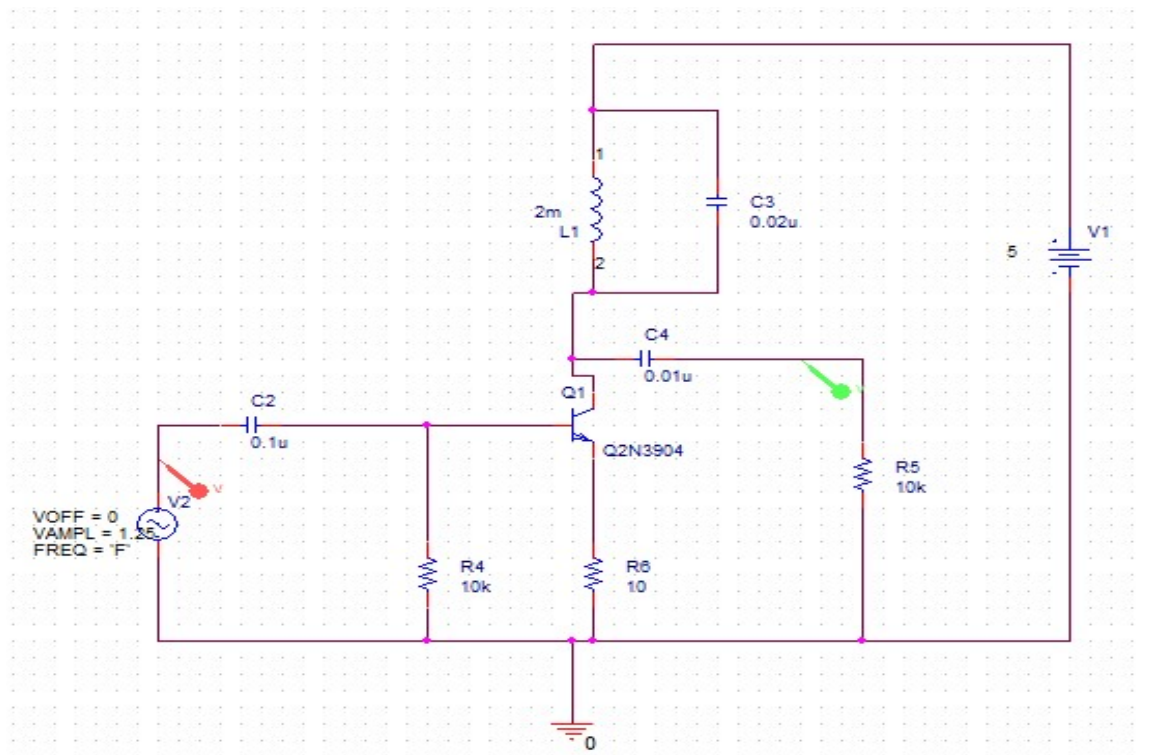

Fig.7: Class C Power Amplifier (Practical Circuit)
For the circuit in Fig 7.
- Implement the hardware circuit as shown in figure 7. and apply the input signal voltage of amplitude 1.25 V and frequency equivalent to the resonant frequency calculated by the formula and observed by simulations.